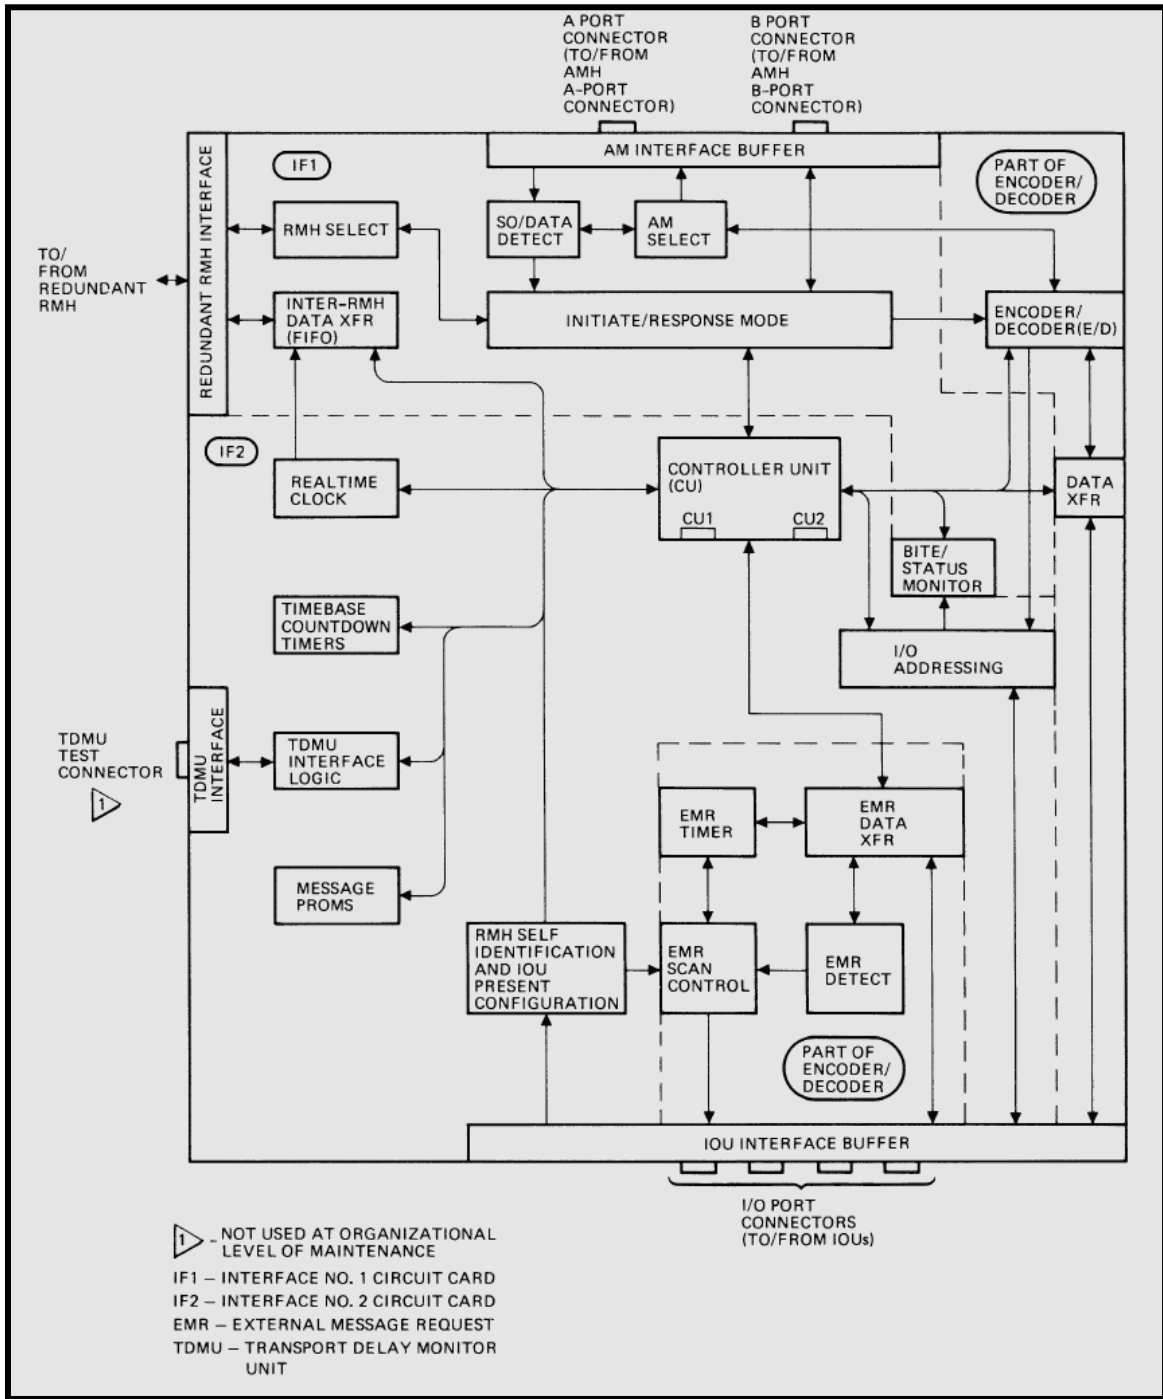

Figure 8-18. RMH Simplified Block Diagram.
Each RMH (Figures 8-18 and 8-3) houses five circuit cards: an interface no. 1 card (IF1), an interface no. 2 circuit card (IF2), two circuit cards (CU1 and CU2) comprising a controller unit (CU), and an encoder/decoder (E/D).